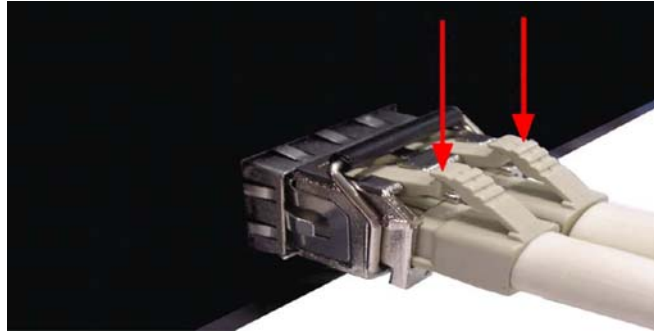

Figure 10. Remove LC Connector
1. Press the upper side of the LC connector from the transceiver and pull it out to release as shown in figure 10 on page 18.